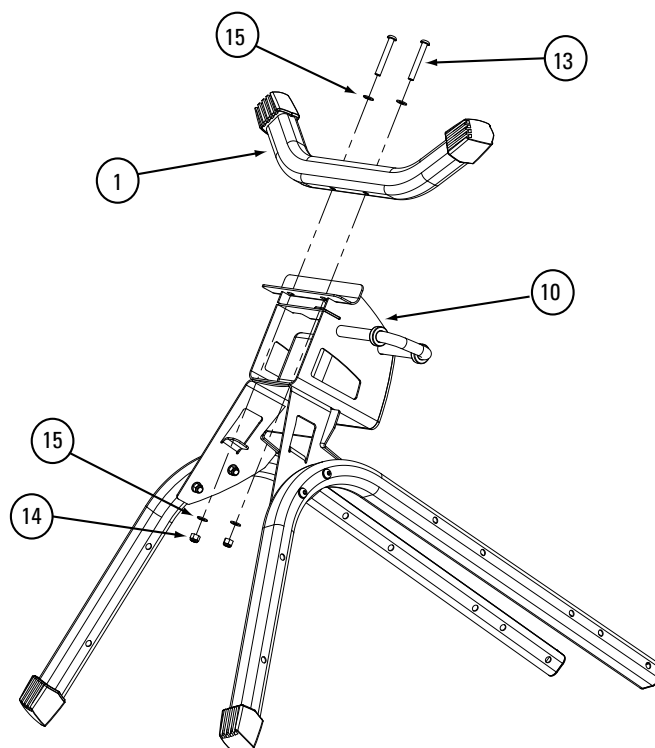

Figure 2
- 2-1** Carefully tilt the base assembly forward to rest on the four Side Tube ends. Attach the Base Support (#1) to the Bottom Bracket (#12) using the hardware as shown in **Figure 2**. Make sure that the Base Support feet are pointing away from the base assembly.